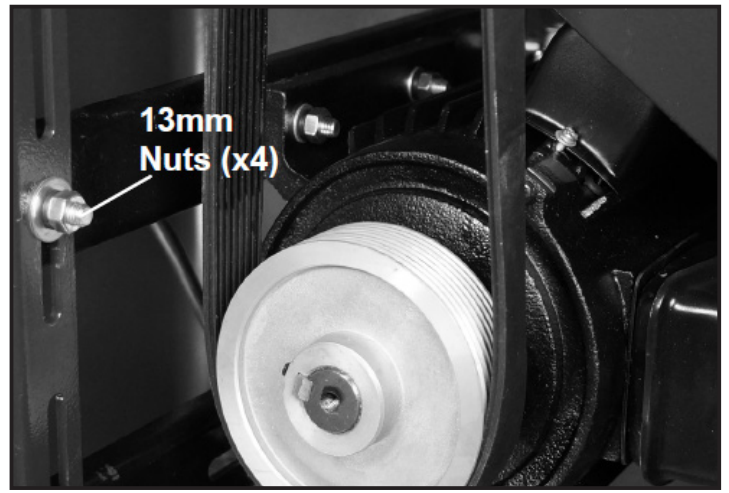

FIG.7.3.1
- Lift up the motor and center the drive belt on the motor pulley. Fig. 7.3.1.